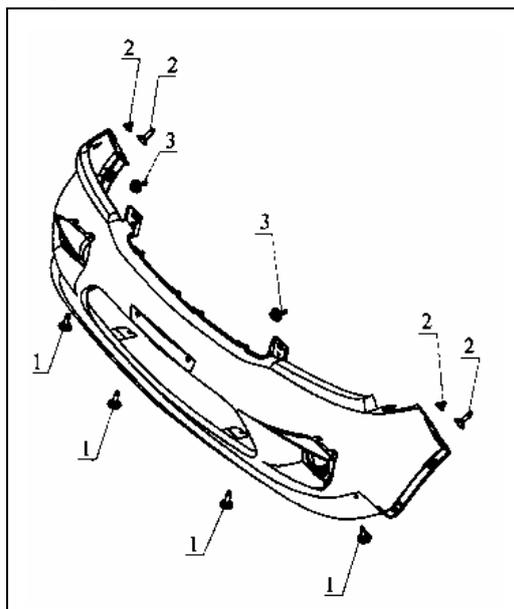

Fig. 19-38
- ① Remove the screw fixed on the body;
- ② Remove the screw and plastic pin fixed on the fender panel;
- ③ Remove the screw fixed on the headlight bracket as shown in Fig.19-38;
- ④ Disconnect all kinds of connector of front bumper, remove the front bumper along the horizontal direction.